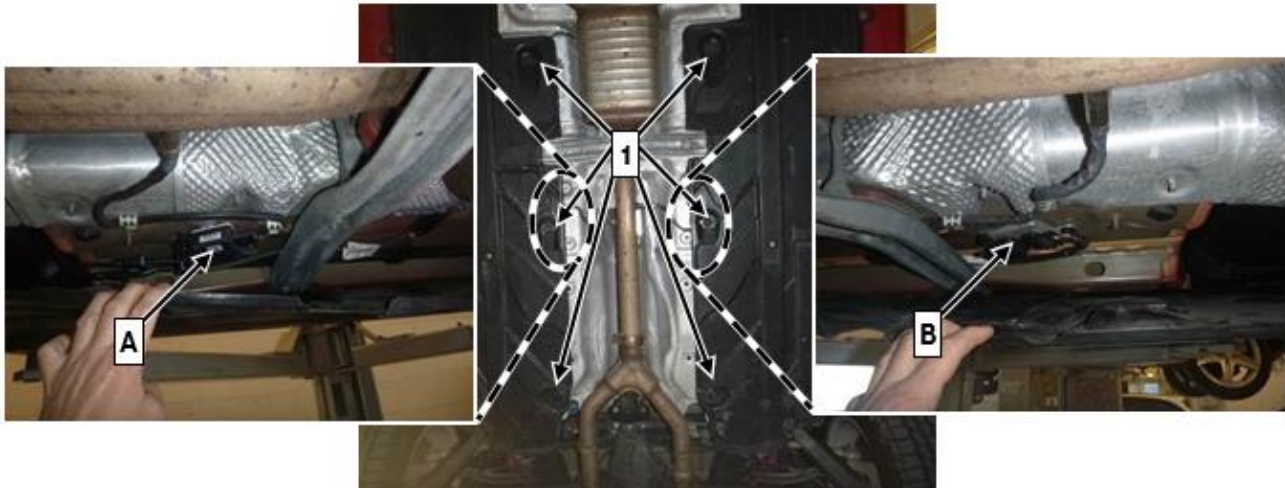

Figure 5
Only loosen the rear underbody panelling (**right and left**) (Figure 5).
- i** Loosen inner plastic nuts (**1**, Figure 5) to do this.
7. Release the NOx sensor (**A, Figure 5**) and particulate sensor (**B, Figure 5**) control units downstream of the SCR on the underbody (**AR14.40-P-2038CD**). The NOx sensor and particulate sensor control units will be replaced.
- i** To do so, push the underfloor paneling downward slightly (**Figure 5**).